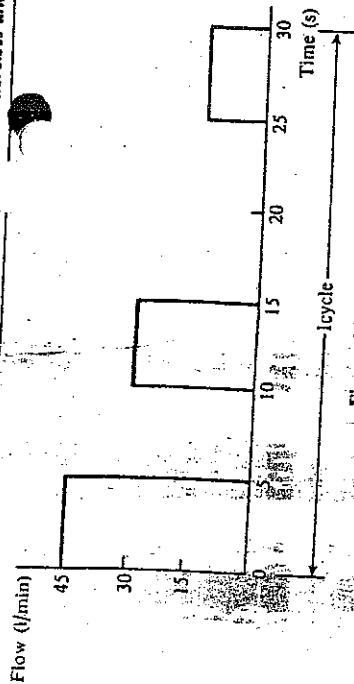

Figure A.21
A.2.9 A pump/accumulator power pack is to supply the fluid flow demanded by a hydraulic system as shown in Figure A.21. The system working pressure is 125 bar and the maximum pressure at the accumulator is 200 bar . Assuming the accumulator pre-charge pressure is 90% of its maximum working pressure. Determine: